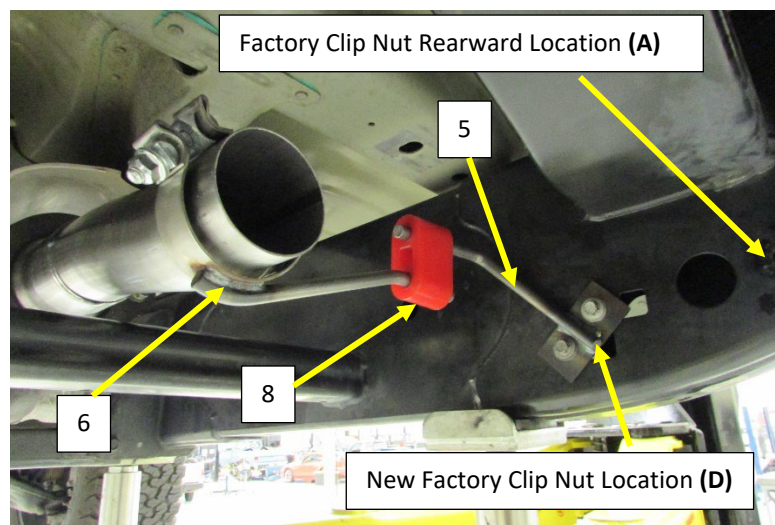

Figure.3
3. Remove the two factory exhaust hanger clip nuts from the front muffler hanger rearward location (A) and install them in the forward location (D) **Fig.3**
4. Install the frame hanger (5) using the factory bolts on to the clip nuts, install clamp hanger (6) on to the inlet pipe (1), Install the Isolator (8) as shown in **Figure.3**